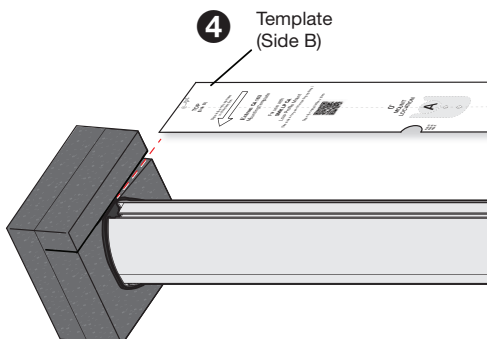

Figure 8. Insert Mounting Template side “B” into Foam Slots
5. Find the slotted grooves on the foam end pieces and slide in the template (see figure 8, ④), with side “B” facing up. Note the input connector is on the bottom end of the speaker.